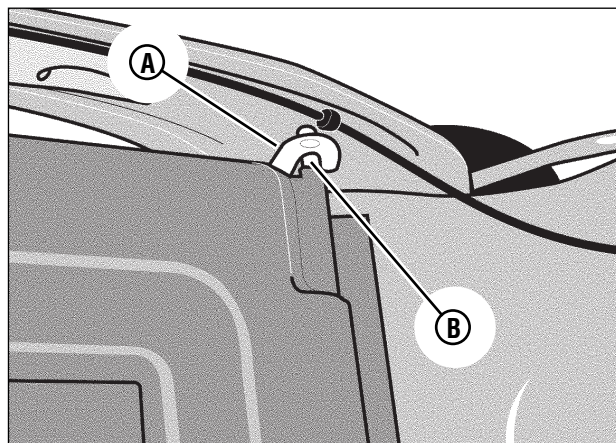

Figure 12: Grass bag hooks
3. Holding the grass bag handle (B), install the grass bag onto the back of the mower, making sure that the grass bag hooks (A, Figure 12) are hooked onto the rear door pivot rod (B).